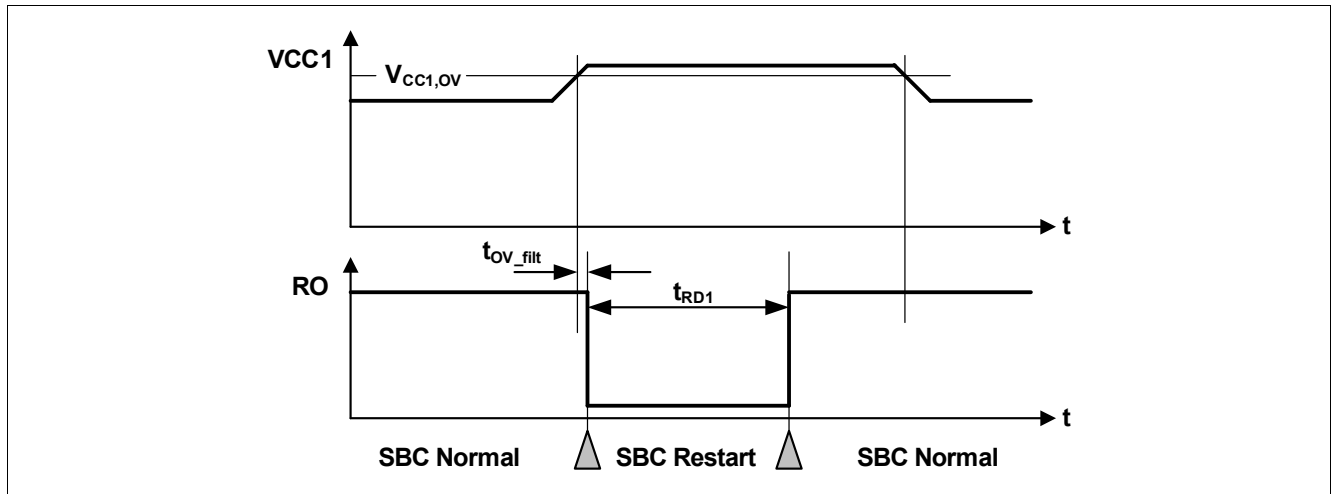

Figure 41 VCC1 Over Voltage Timing Diagram
- If the bit **VCC1_OV_RST** is set and **CFG_P** = '1', then SBC Restart Mode is entered. The FOx outputs are activated. After the reset delay time (t_{RD1}), the SBC Restart Mode is left and SBC Normal Mode is resumed even if the VCC1 over voltage event is still present (see also Figure 41). The **VCC1_OV_RST** bit is cleared automatically;